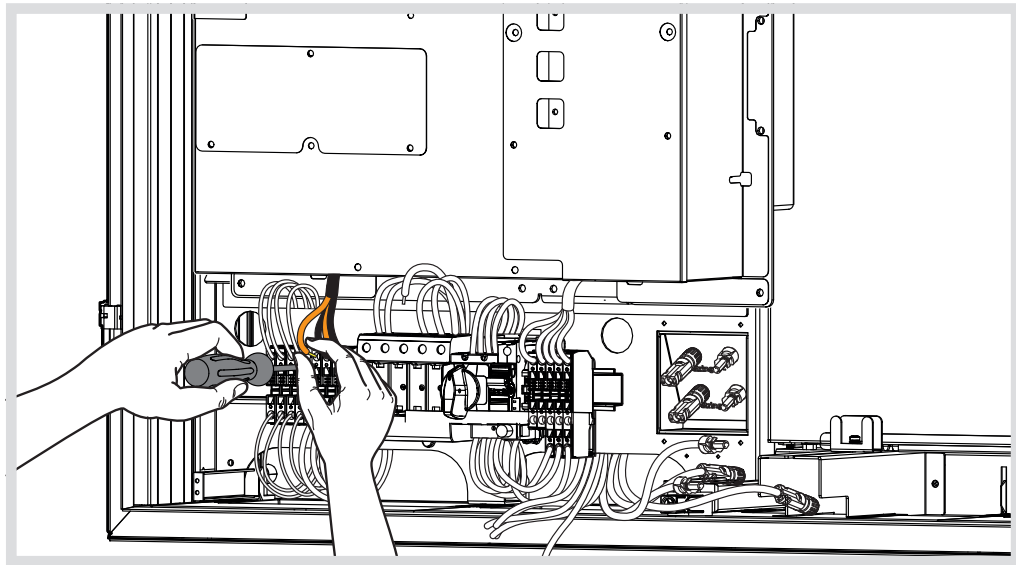

Figure 23: Inverter photovoltaic connection
- Connect the photovoltaic connection cable of the to the photovoltaic modular plug-in terminals with a slot screwdriver (Figure 23).